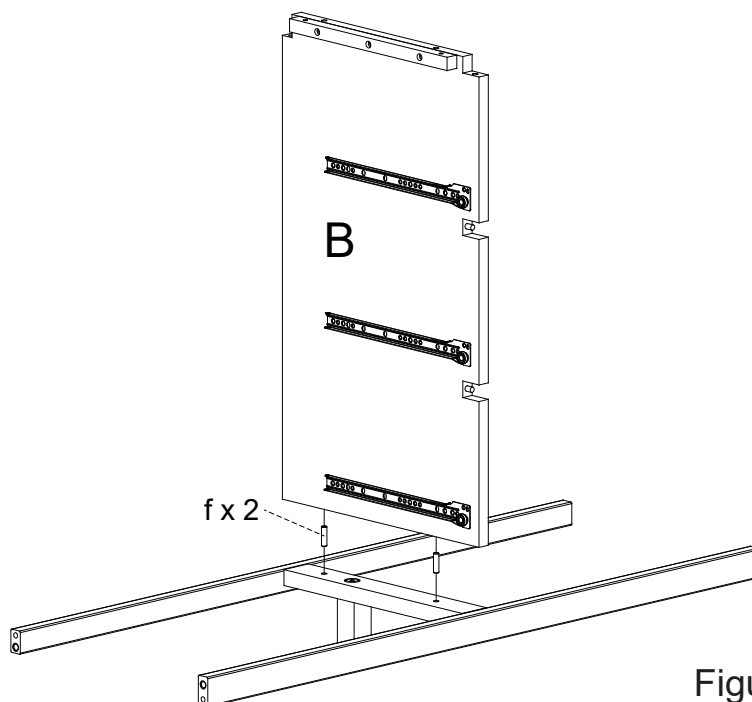
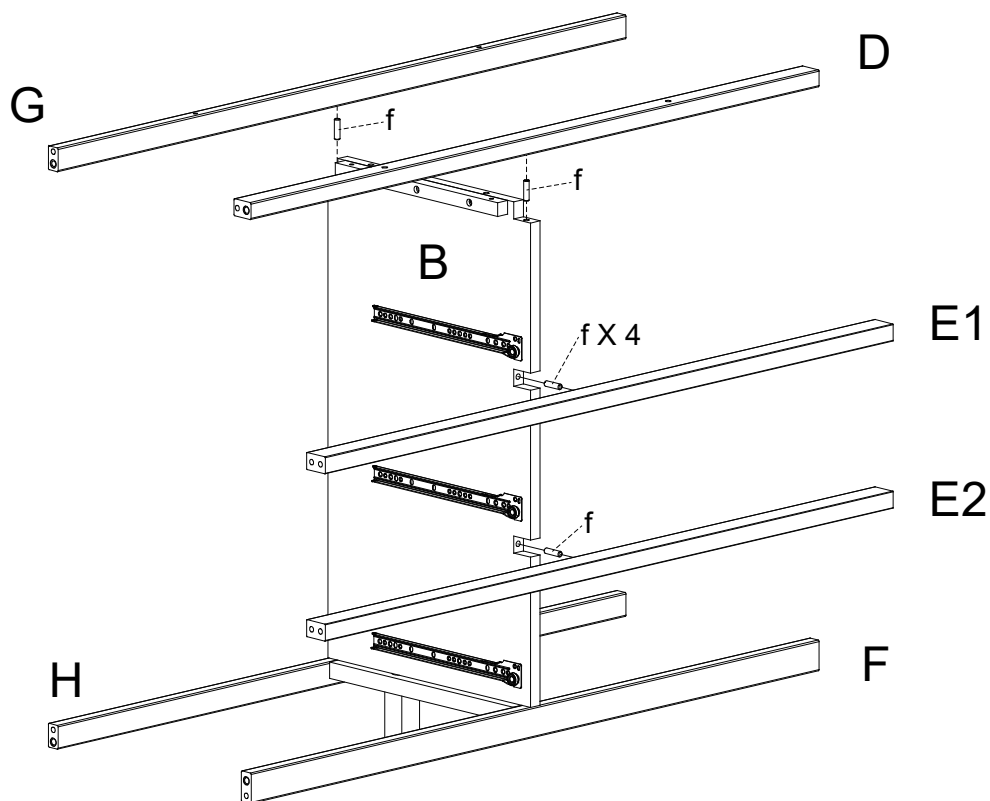

Figure 2
Figure 3
- ② Attach middle panel (B) to support rail (I) , by using 2 wood dowels (f) as Figure 2.
- 3** Attach Front Top rail (D) & Front Middle Upper rail (E1) & Front Middle lower rail (E2) & Rear Top rail (G) to Middle Panel (B), By using 4 wood dowels (f) as Figure 3.
- 5 Attach Top Panel (J) to Side panel by using 5 wood dowels (f) and 4 Bolts(b) and 6 Bolts (d) . as Figure 3.
2. Slide Drawer Bottom (R4) into drawer assembly. *Figure 2.*
②
3. Secure both sides of Drawer Front (R) to drawer assembly with four (4) Screws (g). *Figure 3.*